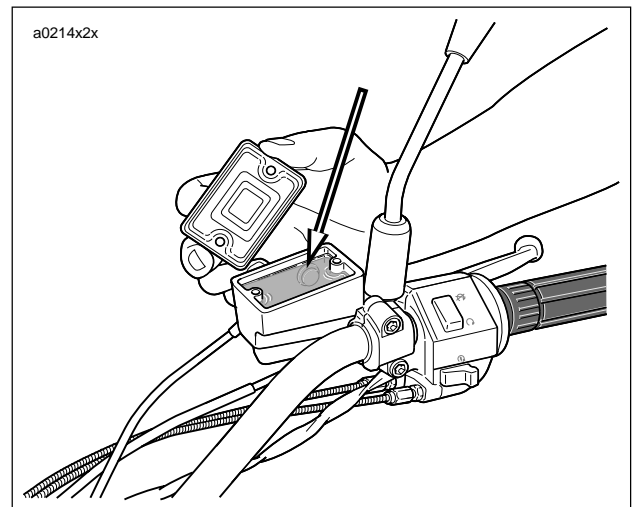

Figure 2-36. Brake Fluid Level
- See Figure 2-36. With the master cylinder in a level position, add **D.O.T. 4 BRAKE FLUID**. Bring fluid level to within 0.125 in. (3.2 mm) of molded boss inside front master cylinder reservoir.
- See Figure 2-36. Verify proper operation of the master cylinder relief port.